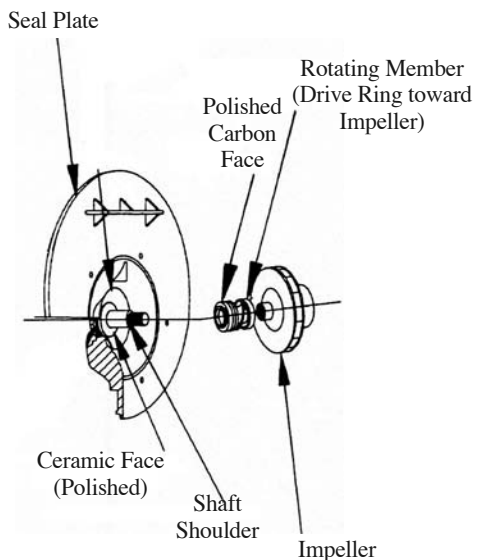

Figure 2
6. Slide rotating seal member, polished face last, over impeller sleeve until rubber drive ring hits shaft shoulder. (Fig. 2).